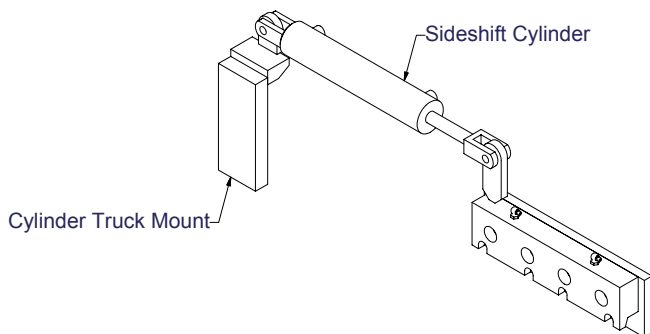

Figure 3-2, Sideshift Installation
3. Keeping the cylinder horizontal, locate position of the cylinder truck mount. (Figure 3-2)